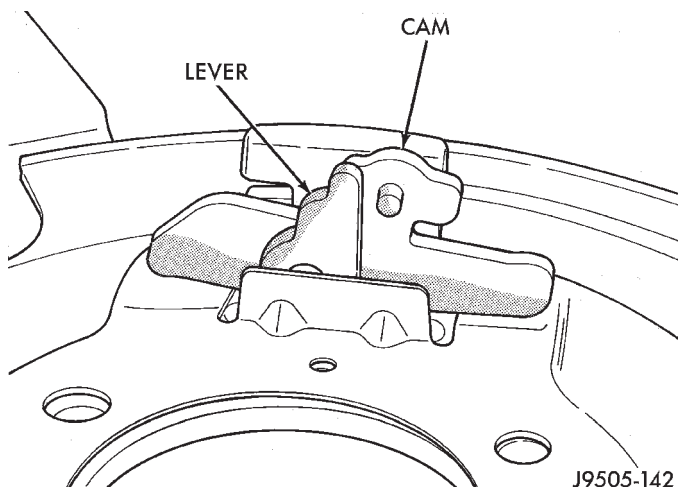

Fig. 57 Cam And Lever Installation
(4) Position splash shield on caliper bracket. Then carefully install shield and bracket assembly on axle tube flange studs.
(5) Apply Mopar Lock N' Seal or Loctite® 242 to the axle tube stud nuts. Then install and tighten nuts to 43-61 N·m (32-45 ft. lbs.).
(6) Assemble and install cam and lever. Push lever through boot and seat cam between lip on shield and ledge on bracket (Fig. 57). Then engage lever in cable eyelet. Be sure cable notch in lever is facing rearward. Remove and reposition cam and lever if necessary.